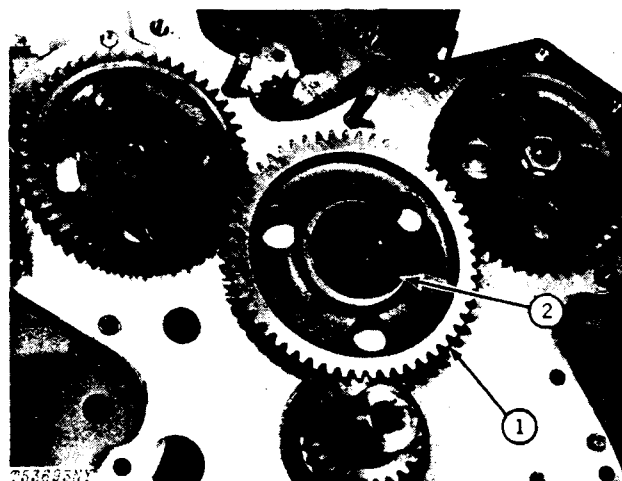

Fig. 38-Upper Idler Gear and Thrust Washer
Position upper idler (1, Fig. 38) and thrust washers (2), without moving the camshaft gear or fuel injection pump gear, on the upper idler gear shaft. Make sure the roll pin in the idler shaft aligns with hole in thrust washer.